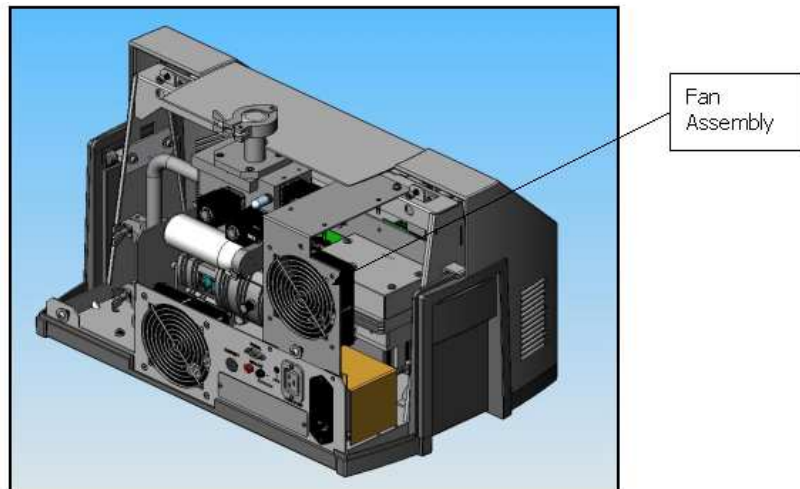

Figure 2: Fan Assembly
5. Disconnect the fan cable and remove the fan assembly by unfastening two wing nuts and one M4 socket head cap screw (Figure 2: Fan Assembly).
30. Attach the fan assembly (Figure 2: Fan Assembly) by fastening two wing nuts and one M4 socket head cap screw. Then connect the fan cable to the unit.